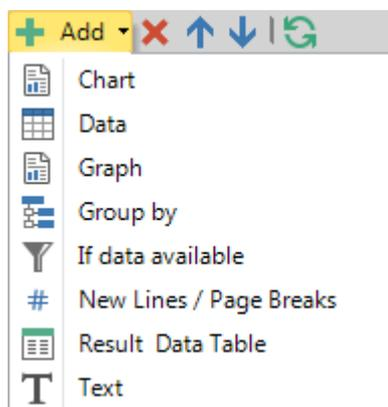

Figure 8-25. Available content types for a Report template
- + 1. On the Report template toolbar, click the **Add** button. See Figure 8-25.
2. From the drop-down menu showing the available content items, select the content type (*Data* or *Graph*, for example), see Figure 8-25.